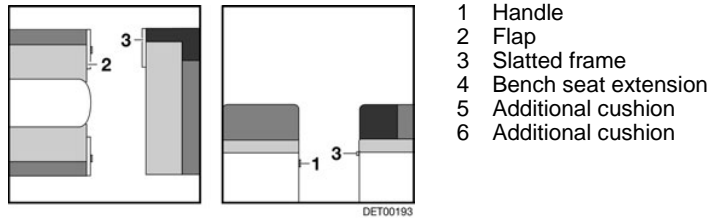

Fig. 33 Prior to conversion
- Pull on the handle (Fig. 33,1) and open the flap (Fig. 33,2).